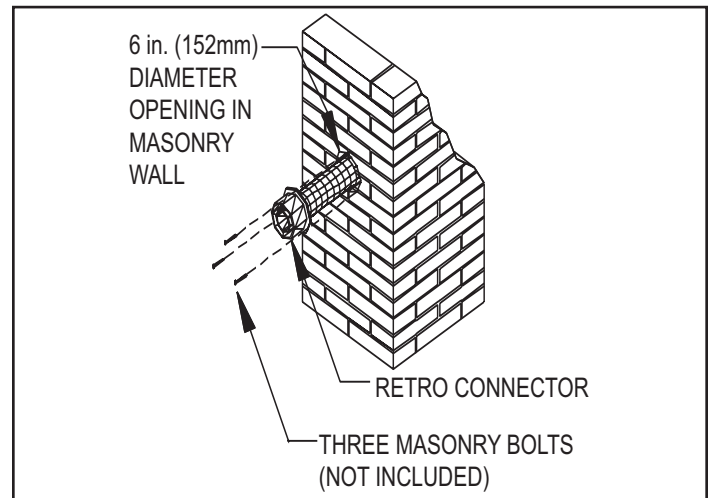

Figure 5.29
**Step 9**- Attach the flex to the retro connector. Use three sheet metal screws to attach the flex liner to the connector (Figure 5.29). Mount the retro connector to the masonry wall using masonry bolts. Redrill larger holes on connector as needed. Be careful to ensure that the connector is centered in the opening and the mounting holes line up with the masonry wall.